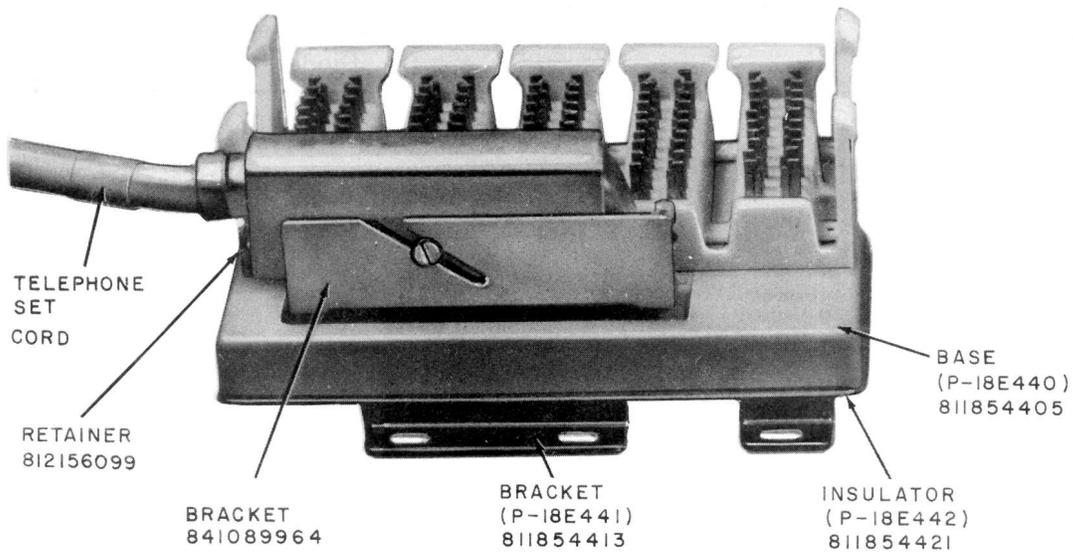

Fig. 2—66E4-25 Connecting Block
**2.05** The 66E4-25 connecting block (Fig. 2) is equipped with a molded plastic base without cable trough or cover; it incorporates a mounting bracket which allows mounting in commercial type underfloor duct service fittings. Cover for 66E4-25 connecting block must be furnished by customer and should be similar to that shown in Fig. 5.